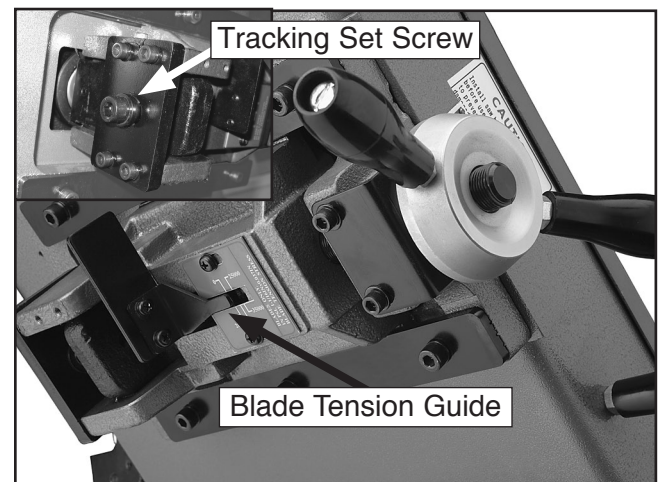

Figure 45. Blade tension guide.
2. Use the graduated scale on the blade tension indicator (**Figure 45**) to determine blade tension in PSI.
1. Turn the tracking set screw (hidden from view) in **Figure 45** until the blade is tracking properly.